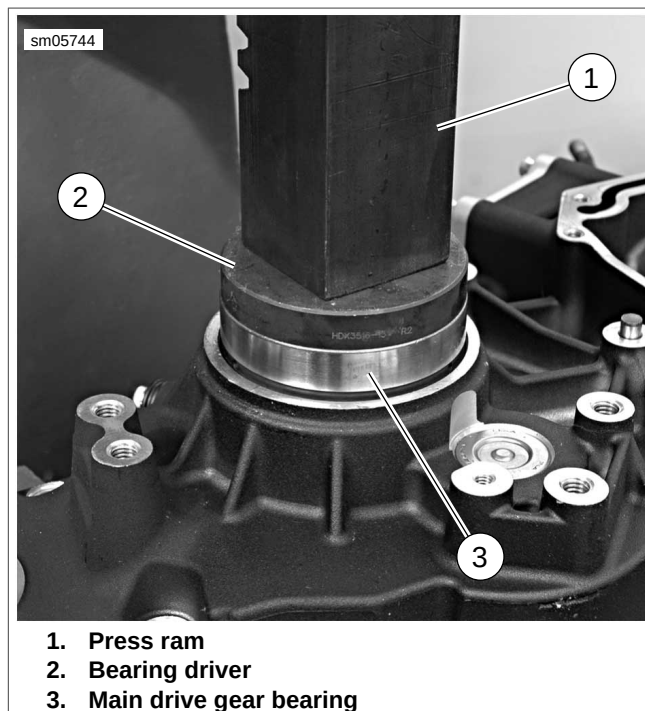

Figure 5-82. Installing Main Drive Gear Bearing: XR Models
1. See Figure 5-82. From the outside of the case, position the main drive gear bearing (3) and bearing driver (2) over bearing bore in crankcase.